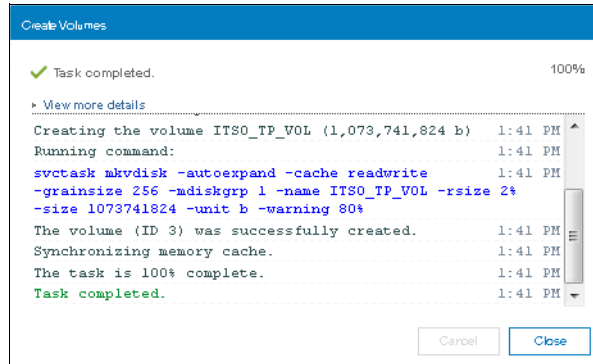

Figure 6-29 Task completed, the thin-provisioned volume is created
5. Click **Create** to define the volume as shown in Figure 6-29.